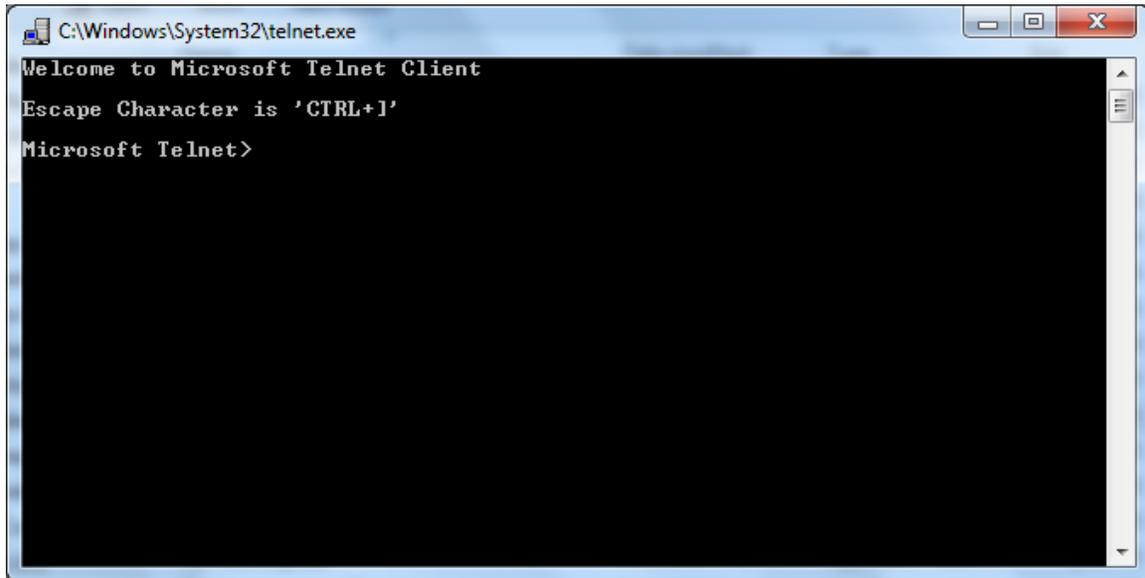

Figure C2. Windows 7 Telnet screen 2
2. A DOS window will open. Type “Telnet “ and press the “Enter” key, and Telnet Client will open as shown in Figure C2.